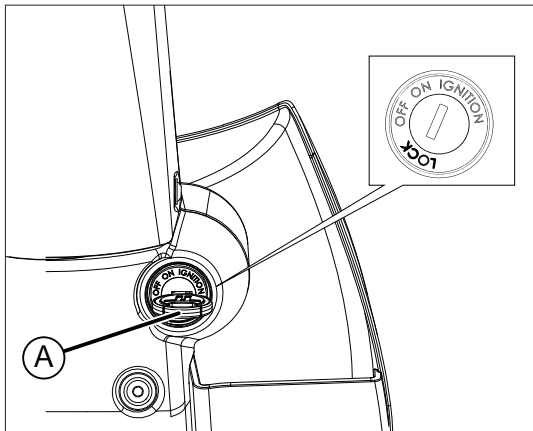

fig. 6
- Press and turn the key A fig. 6 to the left to the LOCK position;